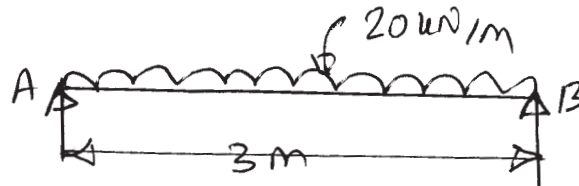

Fig. No. 5
- b) Calculate maximum slope and maximum deflection for a simply supported beam as shown in Fig. No. 5 by using Maculay's method in terms of EI .